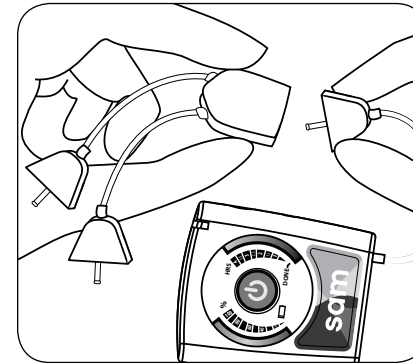

figure 8\*: Connecting Y-Adapter
The Y-adapter (optional) may be used to power two Applicators simultaneously. As shown in Figure 8, connect the Y-adapter directly to the Power Controller wire and then connect each Applicator to a wire jack at the other end of the Y-adapter.
*\* If using 2 applicators: first connect the Y-adapter directly to the power controller wire jack and then connect each applicator to a wire jack at the other end of the Y-adapter (Figure 8\*).*